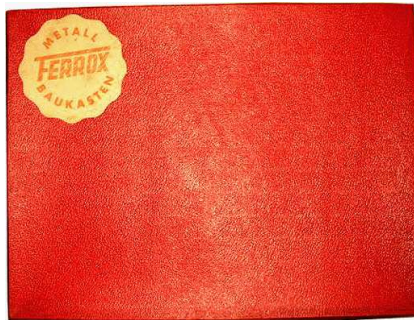

Fig 3b
**Manuals** 3 of the Phase 3 sets seen have a manual cover shown with them, all like the one in Fig 3b, but no further details are available. There were though certainly several editions of the manual during the life of FERROX - a page from a Phase 2 manual has the Monoplane in Fig 4 together with a Lorry with Ladder, and a page from another manual has said Lorry plus a small Loco.